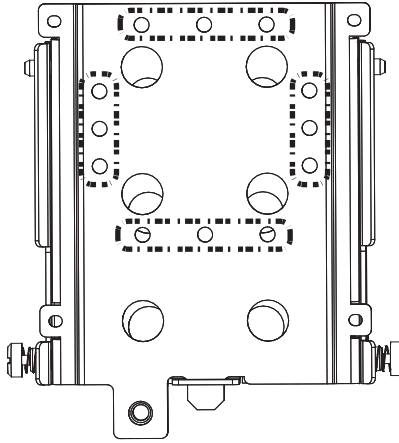

Fig. 3, Mounting holes for Wi-Fi devices
- Use the appropriate mounting hole pattern (shown as dashed lines in Fig. 3) and attach the Wi-Fi device to the top piece of the mounting bracket. Tighten the fasteners to the manufacturer's recommendations.